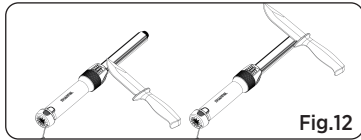

Fig.12
1. Hold the handle with the leather strop facing upward. Place the blade on the strop surface, ensuring the cutting edge is towards the handle. Apply light pressure and **PUSH** the blade **AWAY** from you along the length of the strop - starting from the heel and ending at the tip (See Fig. 12).